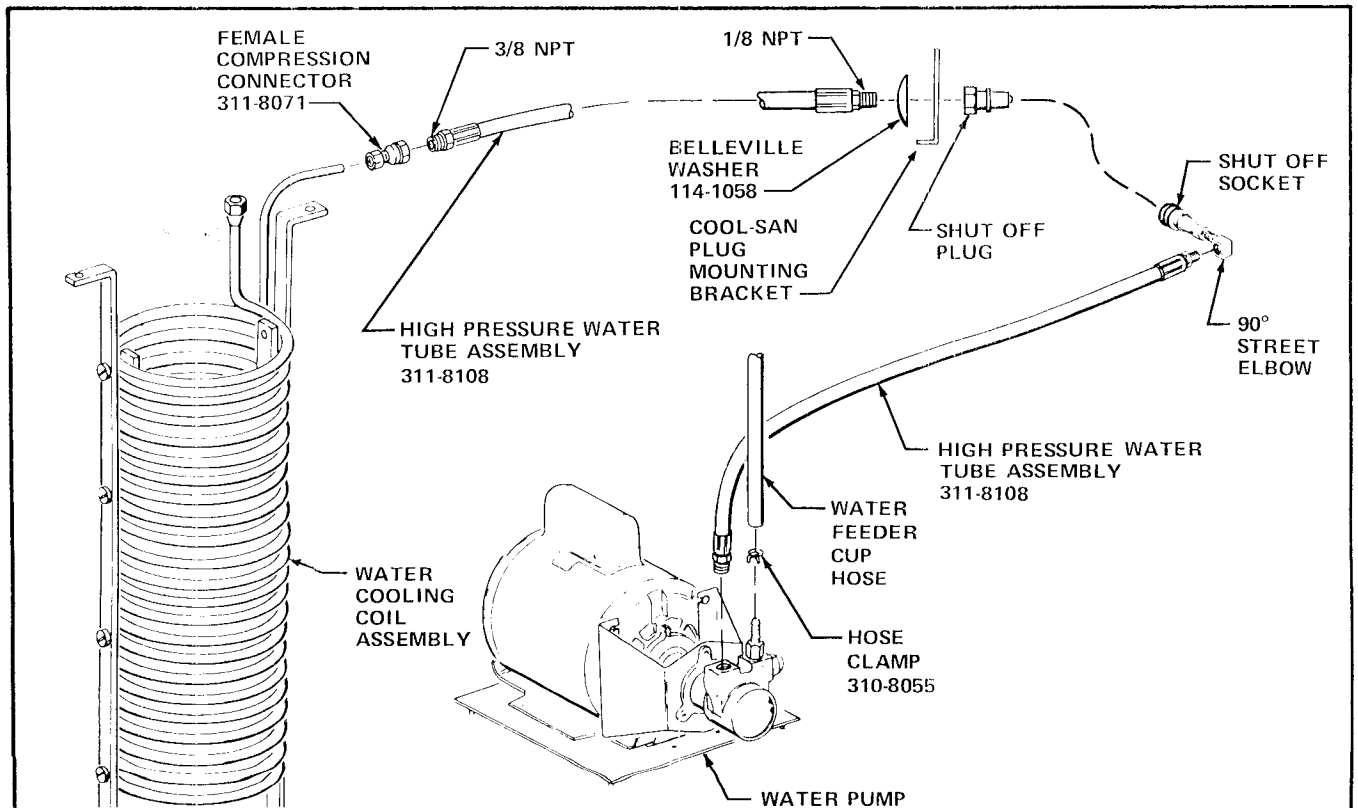

FIGURE 9
3. Install the Female Compression Connector, Part Number 311-8071, included in the Kit, on the 3/8 NPT Fitting of the High Pressure Water Tube Assembly. See Figure 9.
4. Place the Belleville Washer, Part Number 114-1058, included in the Kit, on the 1/8 NPT fitting of the High Pressure Water Tube Assembly with the convex side toward the 1/8 NPT Fitting. See Figure 9.
5. Place the 1/8 NPT Fitting of the High Pressure Water Tube Assembly through the hole in the Cool-San Cleaning System Module Plug Mounting Bracket. See Figure 9.
6. Install and tighten the Shut Off Plug on the 1/8 NPT Fitting of the High Pressure Water Tube Assembly. See Figure 9.
7. Connect the Shut Off Socket to the Shut Off Plug. See Figure 9.
8. Install the Female Compression Fitting end of the High Pressure Water Tube Assembly over the end of the Water Cooling Coil. Tighten the Compression Nut finger tight and then turn and additional 1 1/2 turns, using two wrenches. See Figure 9.
9. Install the Water Feeder Cup Hose and Hose Clamp, Part Number 310-8055, included in the Kit, on the Hose Connector at the Inlet Port of the Water Pump. See Figure 9.